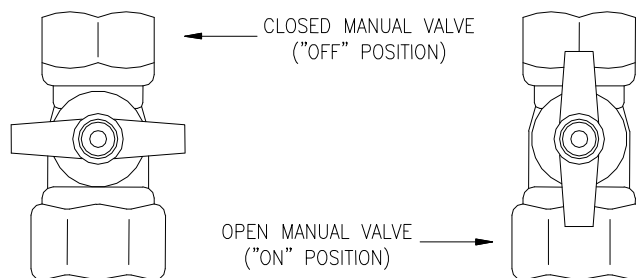

Figure 16. Manual Gas Valve.
1. STOP! Read the safety information above before proceeding. 2. Set the thermostat to the lowest setting. 3. Turn off all power to the electrical appliance. 4. This water heater does not have a pilot. It is equipped with a direct ignition device, which automatically lights the burner. Do not try to light the burner by hand. 5. Turn the manual valve located at the gas inlet of the appliance clockwise  to "OFF" (See Figure 16).	6. Wait (5) minutes to clear out any gas. If you then smell gas, STOP! Follow "B" in the safety information above on this label. If you don't smell gas, go to next step. 7. Turn the manual valve located at the gas inlet of appliance counterclockwise  to "ON" (See Figure 16). 8. Turn on all electric power to the appliance. 9. Set the thermostat to desired setting. 10. If the appliance will not operate, Follow the instructions "To Turn Off Gas To Appliance" and call your service technician or gas supplier.
1. Set the thermostat to the lowest setting. 2. Turn off all electric power to the appliance if service is to be performed.	3. Turn the manual valve at gas inlet of appliance clockwise  to "OFF" (See Figure 16).
1. Turn the gas shutoff valve on the gas supply inlet to the OFF position (See Figure 16).